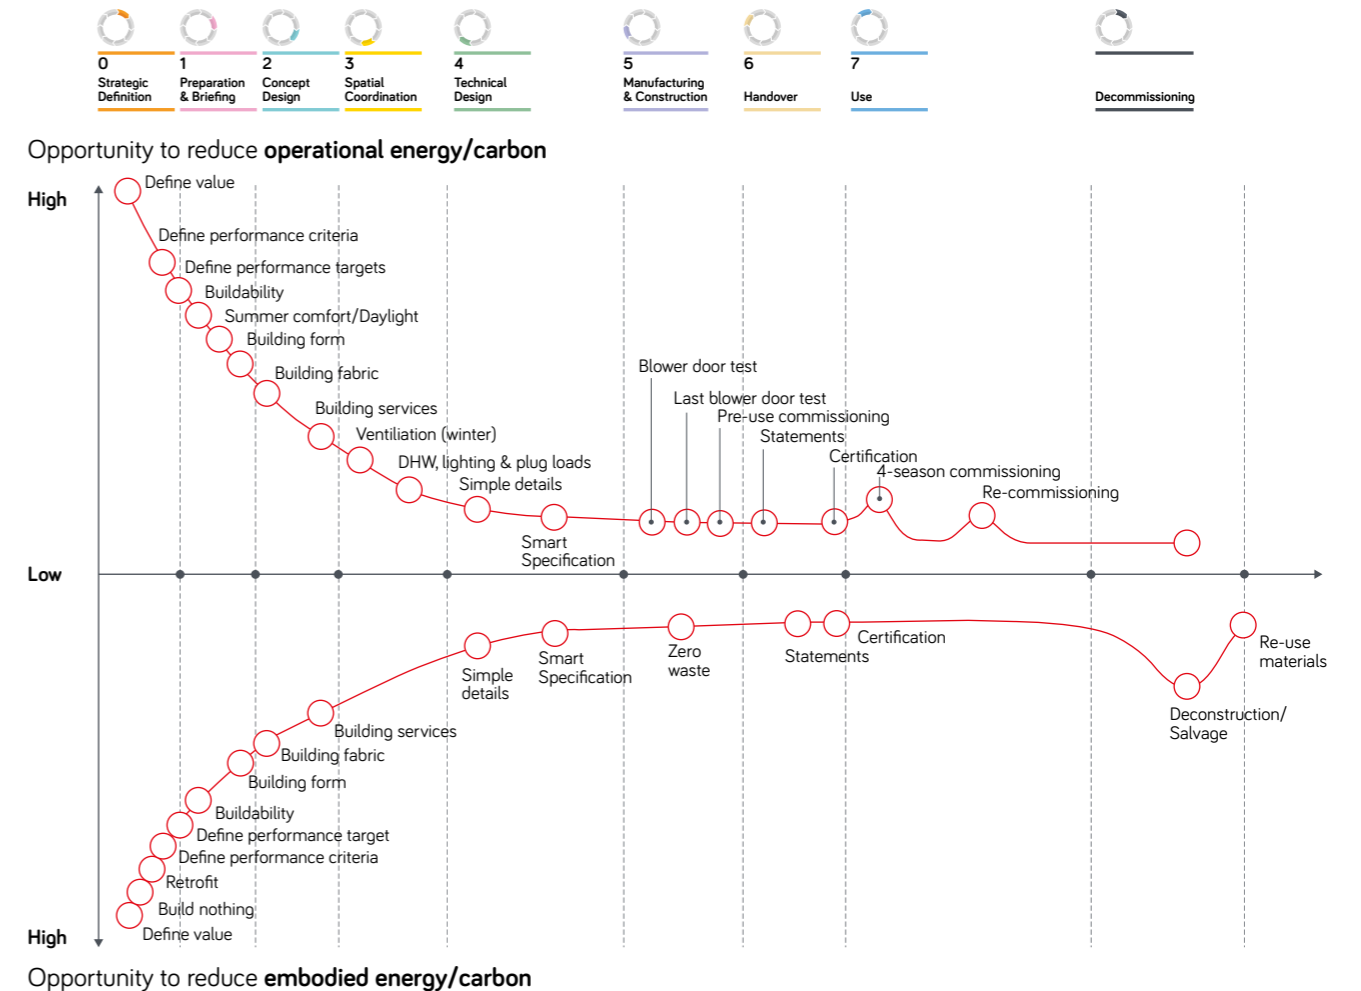

Figure 6: Visual representation of the opportunity for the Passivhaus Overlay to support the delivery of low carbon buildings.
- A) Passivhaus Planning Package (PHPP) prototyping and options analysis can be done before an architectural design has been developed. This is not traditional design practice, and may at first appear counter-intuitive. However, experience suggests that this approach helps the design team identify the relationships between the range of design constraints which affect any given project, and subsequently aids the development of a site-specific design which responds to these constraints. To inform the design process each building type and site will have an optimal range of useful Design Metrics, generally including, although not limited to, parameters such as form factor, glazing ratio, ventilation rate, length of intake/exhaust ductwork, internal gains etc. Each building typology has an optimal range of factors, ratios, rates etc. and thus early prototyping and options analysis during RIBA Stages 1 and 2 helps the design team to identify and develop these metrics so that the design process can be expedited, costly redesign can be avoided, and construction budgets can be met. The added bonus of such an approach is that this form of analysis also facilitates the reduction of embodied carbon by identifying opportunities to streamline material quantities through resource efficiency right from the outset (as shown in Figure 6 later).
Applying the Passivhaus Overlay and pursuing the Passivhaus standard has beneficial consequences insofar as it can support a reduction in whole life carbon emissions and assist with satisfying the RIBA 2030 Climate Challenge criteria. Figure 6 below describes the relationship between Passivhaus decision-making (which drives a reduction in operational energy and operational carbon emissions) and decision-making which drives a reduction in embodied carbon. This is further explored in the Passivhaus Trust's report *Passivhaus and embodied carbon* (2022).